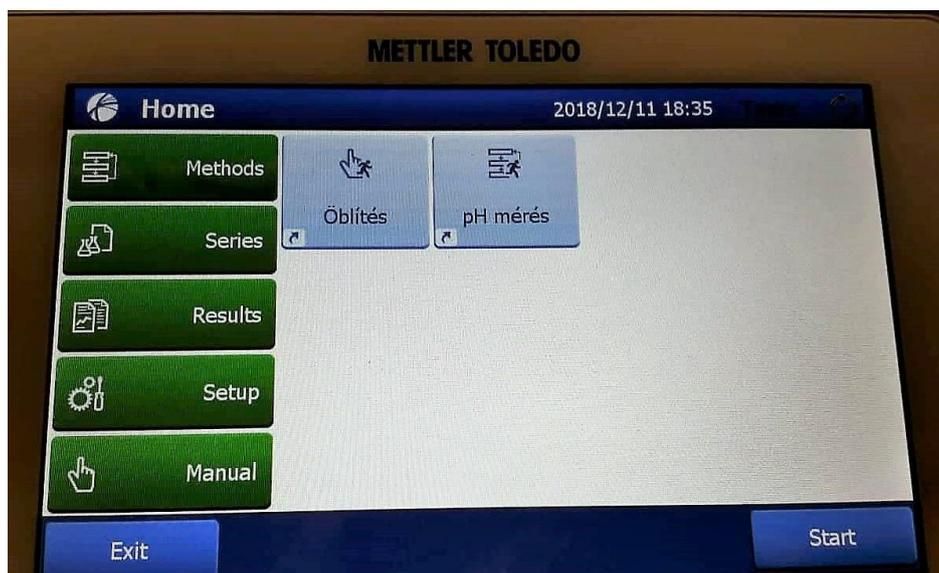

Figure 4. Control panel of Mettler T5
3. Push the OK button on the control panel (Figure 4.) *ábra*) in the push-up window for recognizing the burette.